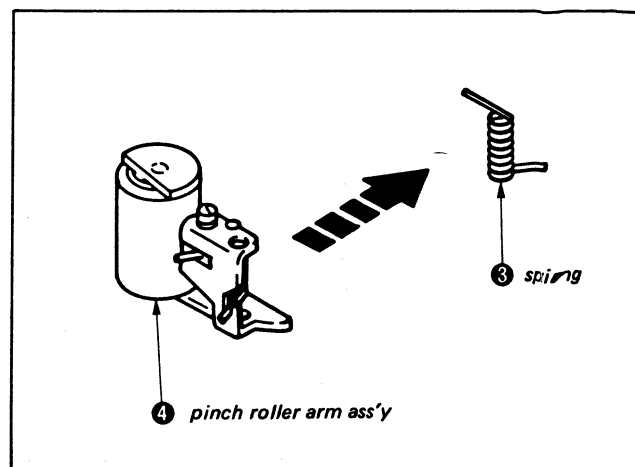

Fig. 3-14.
- 6) Remove spring ③. (See Fig. 3-14)